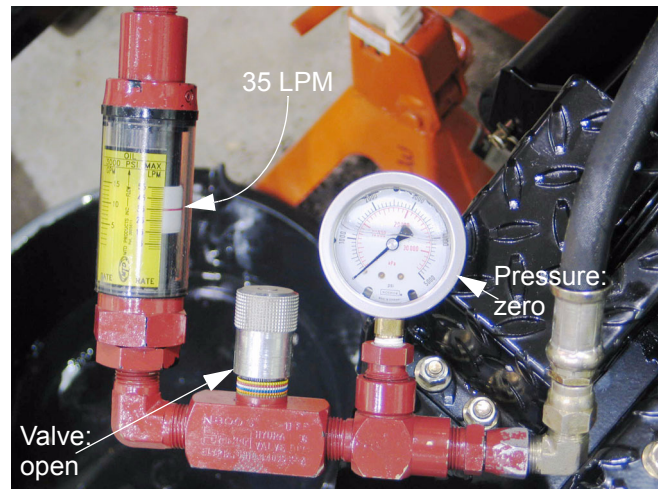

Figure 24.22
24.22. Begin the flow droop test with the throttle set to 3,400 RPM: See Figure 24.22.